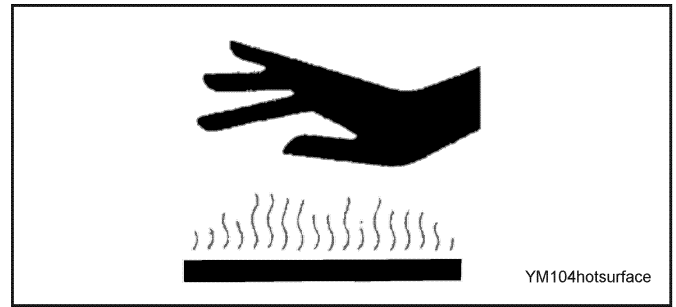

FIGURE 4.4A
C. Hot Surfaces & Fluids– FIGURE 4.4A